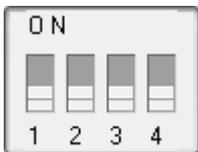

Figure 8
1. **BEFORE** inserting the batteries, locate the dip switches inside the battery compartment of the transmitter. Figure 8 displays all four switches in the OFF position (factory default setting).